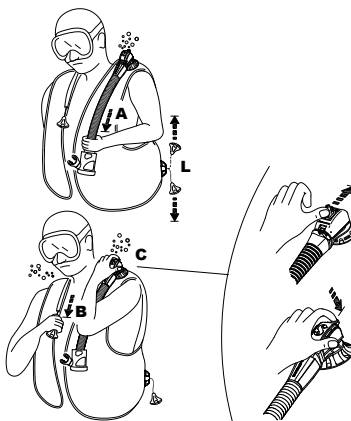

fig. 7
- pulling gently on the hose assembly (fig. 7 - A).
- pushing on the button that protrudes out of the valve casing (fig. 7 - C) (Patented): this system could be useful also to purge air of another diver having problems (panic, beginner diver, unconsciousness, etc.).
- The SCUBAPRO® Dual Manual Dump Valve (Patent) has a safety hand button that releases air when pushed (fig 7-C), in case of failure of the Manual Dump System (broken cable, pin, etc.) or while breathing from an Air 2.
### **Shoulder valve (fig. 7-B)**
The valve on the right shoulder, if present, is activated by pulling gently on the knob which is connected via a lanyard to the valve itself (fig. 7 - B). To operate either style of dump valve, orient the valve to a position higher than the air bubble in the BC. Activate the dump valve until the desired amount of buoyancy is reached. Stop pulling/pushing to close the valve (fig. 7 - B).
### **Lower Dump Valve (fig. 7 - L)**
**the deflation devices with the maximum outflow of gas are the shoulder valve fig. (7-B) and the lower valve (fig 7-L).**